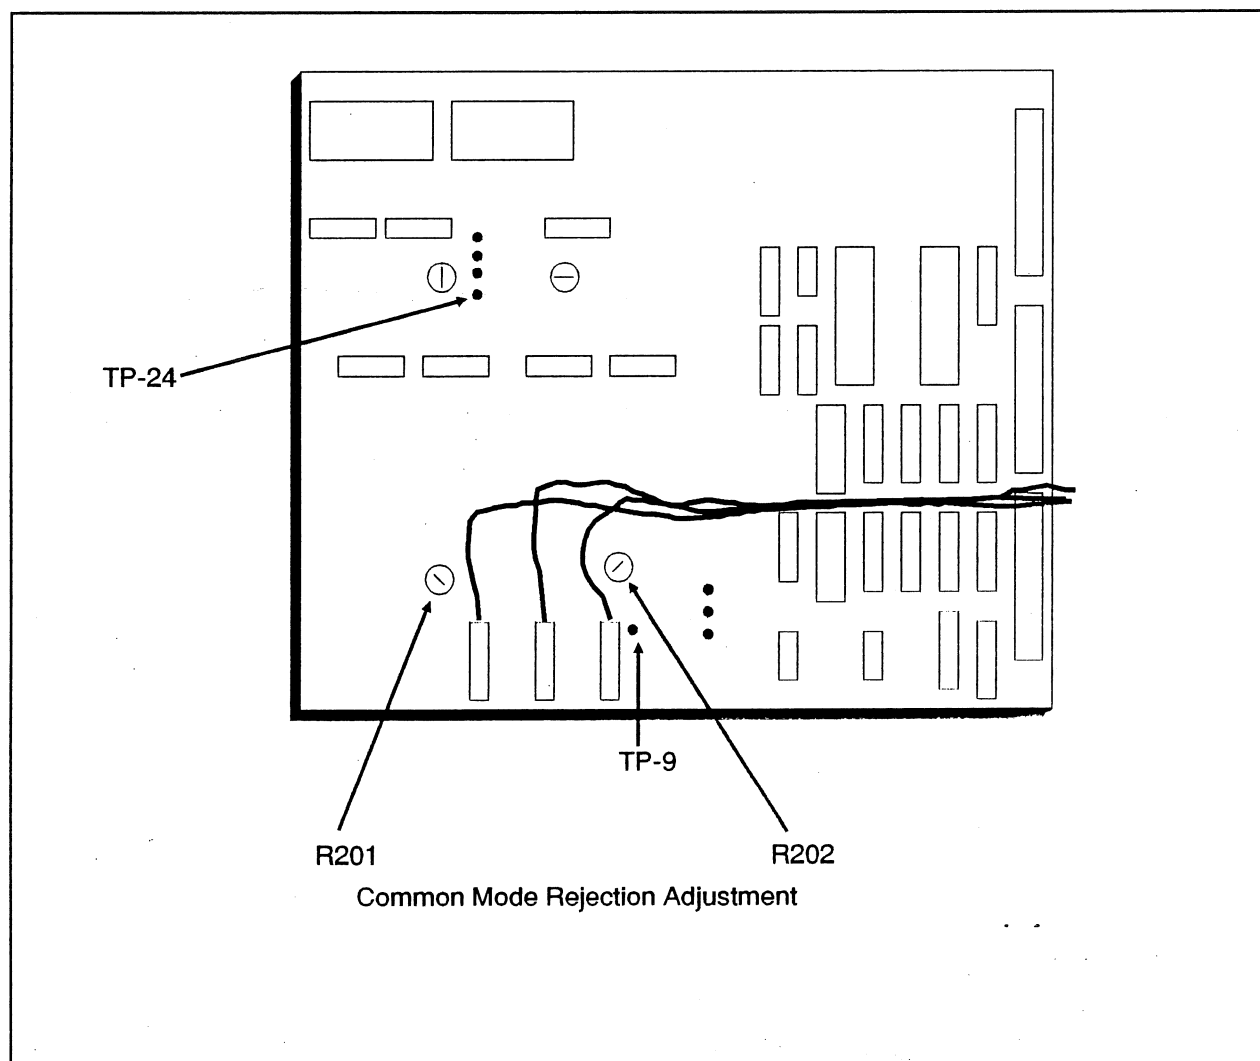

Figure 2-2. DFE Board Common Mode Rejection Adjustments
- 7 Use the Cursor mode on the lower display to show the ASPEC of Channel 1 and adjust R201 on the DFE Board until the 500 Hz line is as small as the adjustment will allow (below -80 dB). See Figure 2-2.
- 17 Connect a jumper between TP-24 and TP-9 on the DFE Board. See Figure 2-2.